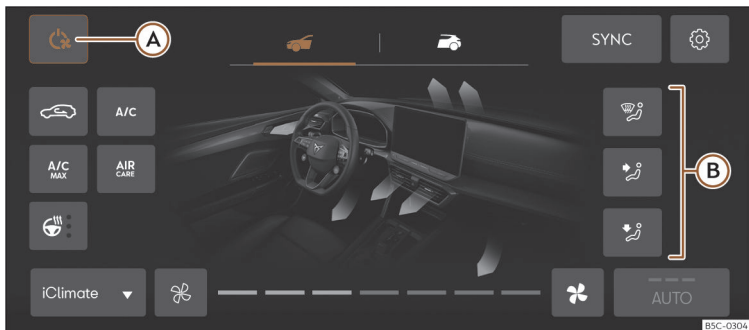

Fig. 117 Schematic representation: Air conditioning menu.
>>> **Fig. 117 (A)**.
Vents The colour of the arrows in the image of the vehicle interior indicates the temperature requested depending on the ambient conditions, not the air outlet temperature. The direction of the air outlet is selected with the buttons >>> **Fig. 117 (B)**.